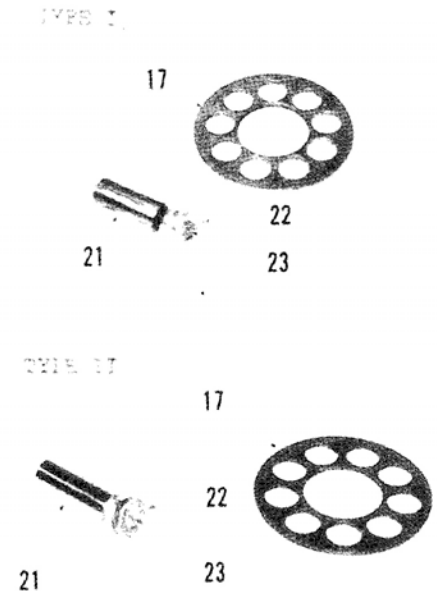

Fig. 61—View showing Type I and Type II piston barrel (21), slipper (22), lubricant hole (23) and retainer plate (17).
Separate input shaft from charge pump case, then inspect shaft for excessive wear and any other damage. Check pistons for smooth movement through cylinder block bores. Examine piston barrel (21—Fig. 61) and cylinder block bores for scratches, burrs, excessive wear and any other damage. Inspect slipper (22) for excessive wear; minimum allowable thickness is 2.90 mm (0.114 inch).